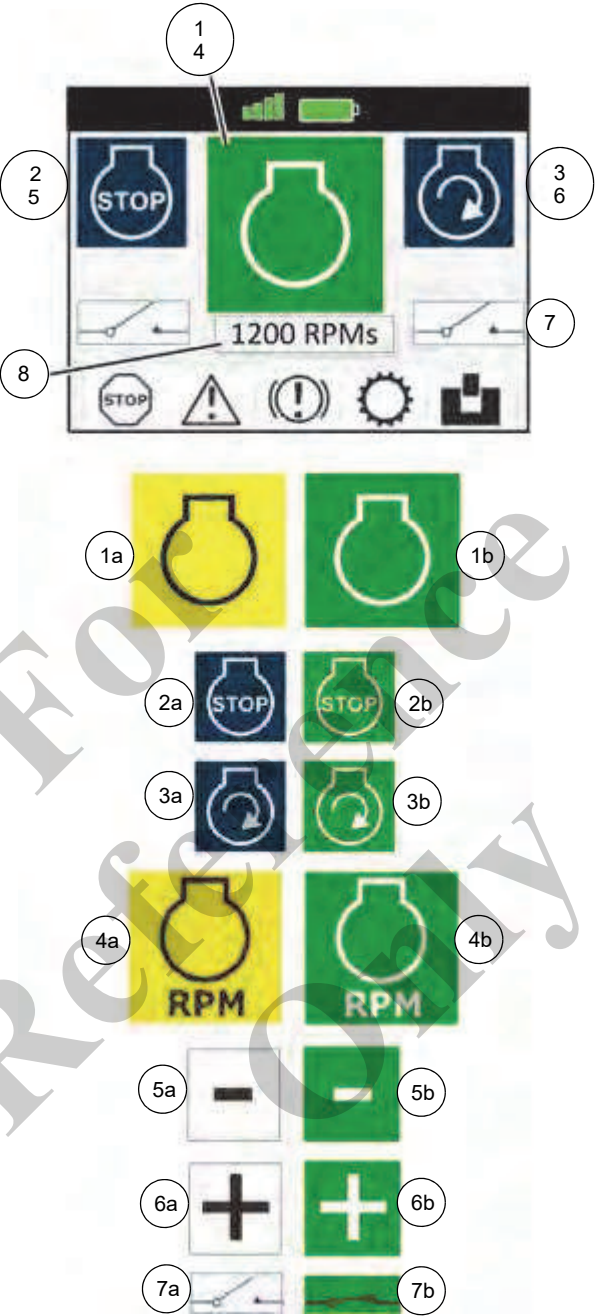

FIGURE 3-55
See Figure 3-55 and Figure 3-50.
The engine's speed is shown in the RPM screen (8), (Figure 3-55).